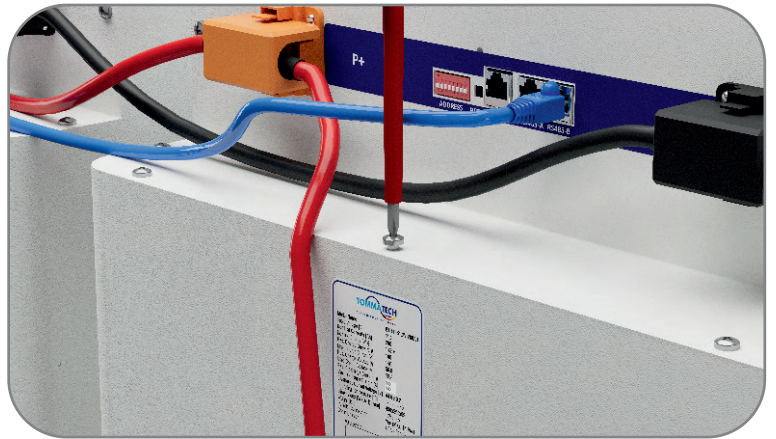

Figure 7.14
STEP 14: To mount the fixing apparatus to the battery, remove the middle screw at the back using a screwdriver. (Figure 7.14)